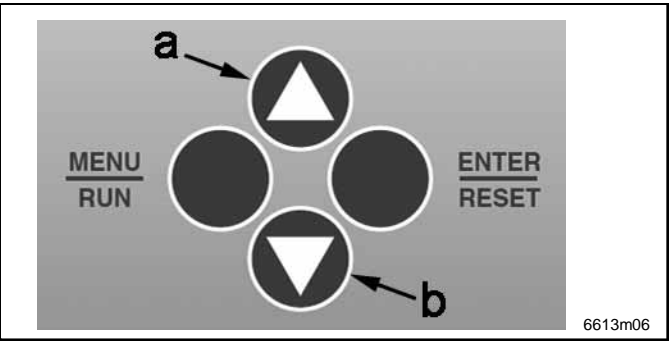

Fig. 9 Operating panel
*As soon as you press the "UP" key (pos. a, Fig. 9) outside of the configuration mode, the actual rest of the expired pause cycle is shown in the display.*
*The version number setting (0 - 1) is shown in the LMC 1 display and is made using the UP & DOWN keys on the operating panel (see pos. a & b, Fig. 9).*
- Complete your selection (0 - 1) with the ENTER key (Fig. 9).